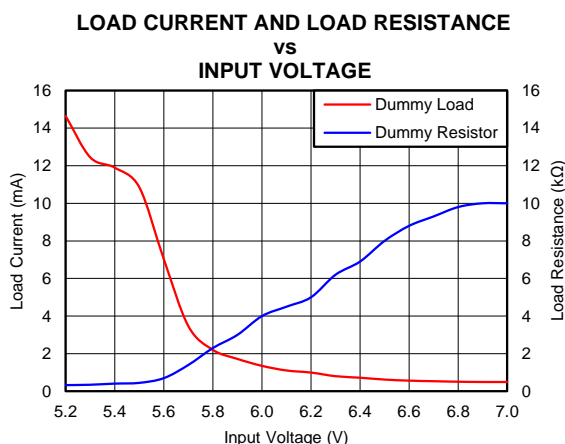
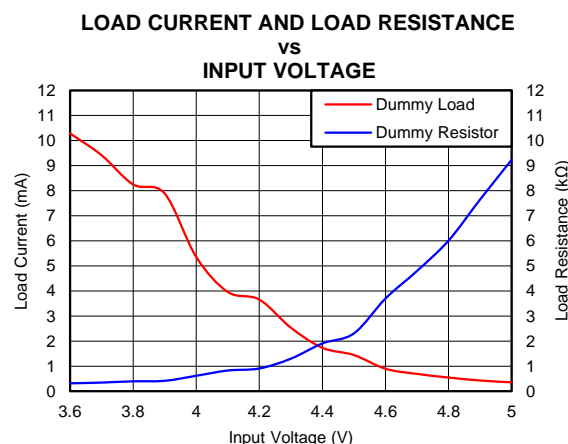
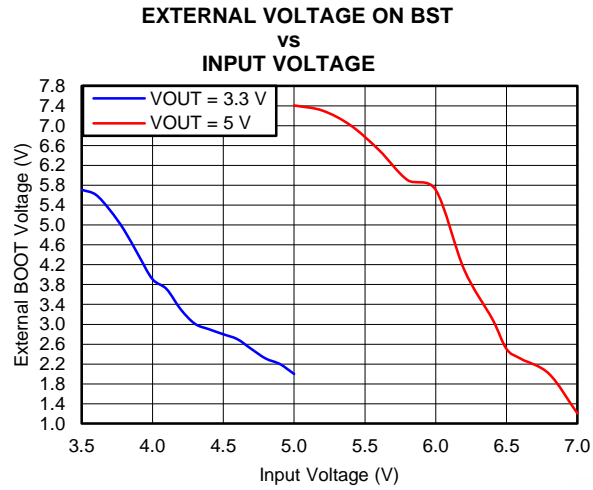

Figure 7. Dummy Load With 5-V Output
Figure 8. Dummy Load With 3.3-V Output
Figure 9. Required External Voltage on BOOT Pin
When the converter operates in CCM, the PH voltage is clamped to ground during the high-side switch off time, allowing the BOOT capacitor to be fully charged. As a result, this regulation problem does not exist in CCM. However, when operating near 100% duty cycle, there is a drop on the output voltage when the BOOT UVLO is triggered. The high-side MOSFET turns off and the output capacitor must supply the load during this time period (see Figure 7).
Figure 7 shows the values of the dummy load with different input voltages when the output is 5 V. The minimum load is selected to provide at least one minute of regulation followed by an immediate recovery from brownout. It also includes the corresponding dummy resistor values.
For 3.3-V application, in addition to changing R6 back to 31.6 kΩ, TI recommends adding a 220-μF bulk capacitor on the input to keep the input voltage stable. When the input voltage approaches the minimum input voltage of the TPS54260 device (3.5 V), the noise and ripple at the input while switching may shut down the regulator. Figure 8 shows the dummy load needed with the corresponding resistance to keep a 3.3-V output in regulation for at least one minute.
When supplying a voltage to the BOOT node that is 2.1 V higher than the output, the output maintains regulation. A lower voltage source helps charge the BOOT capacitor, as long as the source is stable with sufficient load capability and fast transient response. The external voltage sources current in parallel to the internal BOOT regulator. Figure 9 shows the minimum required voltage at the BOOT node with various input voltage in no load when the output is 5 V and 3.3 V.
If there is another voltage on the final system board, it can be used to improve the low dropout regulation of the TPS54260 family. As Figure 9 indicates, an external 6 V is sufficient to keep the 3.3-V converter in regulation at any input voltage. The similar conclusion is 7.5 V for a 5-V converter.
To improve the low dropout of the TPS54240 and TPS54260 family, this application note investigates the low dropout operation in light load. Two basic solutions are introduced, which include (A) dummy load at the output and (B) an external voltage at the BOOT node. Figure 7, Figure 8, and Figure 9 show the effect of the basic solutions. Based on the basic solutions, the four additional solutions provided are: